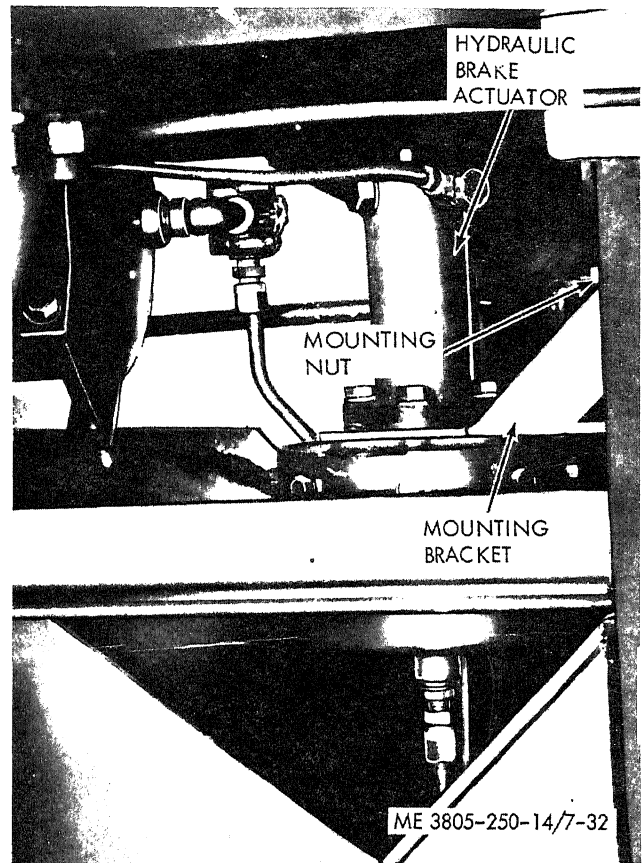

Figure 7-32. Hydraulic brake actuator, removal and installation.
a. Removal. Refer to figure 7-32.
- (1) Block the wheels and engage the parking brake.
(2) Open the drain cock on the main air reservoir and depressurize the system.
(3) Clean the area around the actuator to remove dirt and grease.
(4) Disconnect lines to actuator. Cap or plug lines and fittings as soon as they are disconnected.